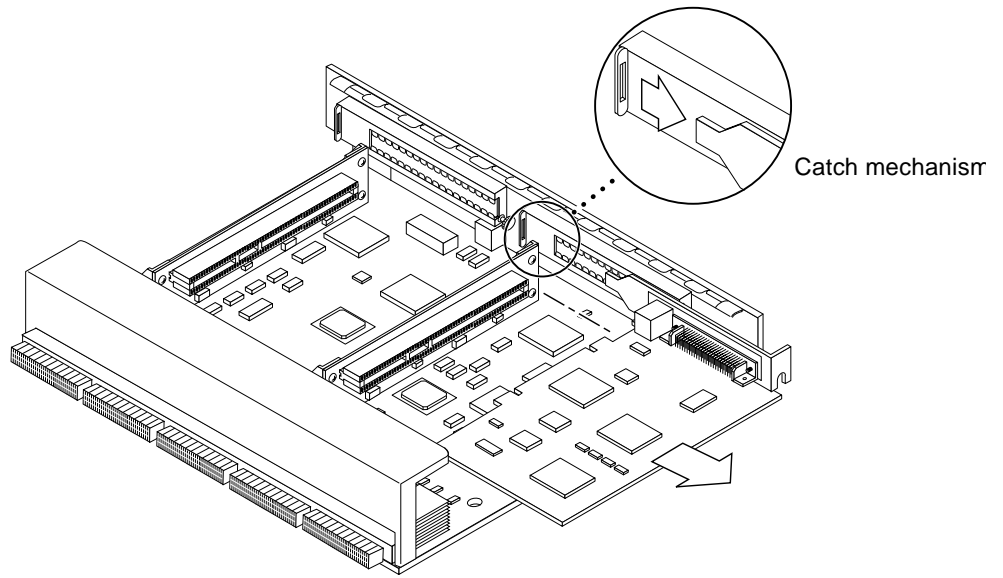

FIGURE 4-24 PCI Card Removal
4. Refer to FIGURE 4-24 while removing the card as follows:
5. Once the card is free of the PCI bus connector and the metal catch mechanism, remove the card from the I/O+ board (FIGURE 4-24).